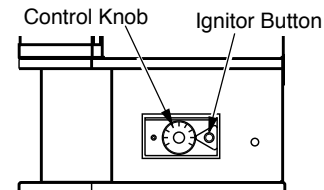

Figure 18 - Control Knob and Ignitor Button Location
4. Wait five (5) minutes to clear out any gas. Then smell for gas, including near the floor. If you smell gas, STOP! Follow "B" in the safety information, column 1. If you don't smell gas, go to the next step.
5. Turn control knob counterclockwise  to the PILOT position. Press in control knob for five (5) seconds (see Figure 18).